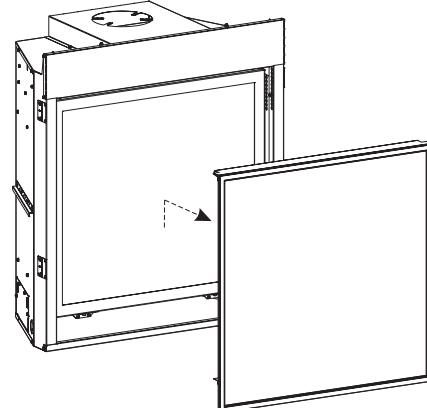

Figure 4
- Turn off power and gas. Lift barrier screen and pull away from the unit. **See Figure 4.**
26. Replace barrier screen removed in step 1. **See Figure 4.**